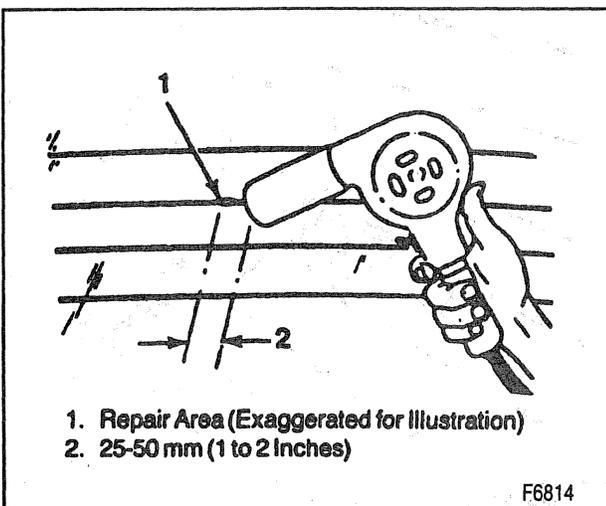

Figure 26—Applying Heat to the Grid Line Repair
4. Holding the heat gun 25 to 50 mm (1 to 2 inches) from the repair area, apply heat at 260° - 370° C (500° to 700° F) for 2 to 3 minutes (figure 26). If a heat gun is not available, allow the repair to air dry at an ambient temperature of 20° to 39° C (70° to 90° F) for 24 hours.